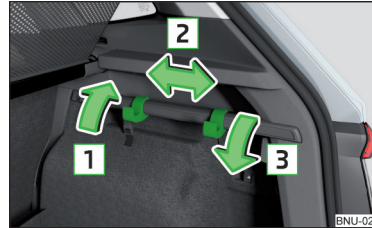

Fig. 140
- » Hold hook upward in direction of arrow **1** and move to the desired position in the direction of arrow **2** » Fig. 140.